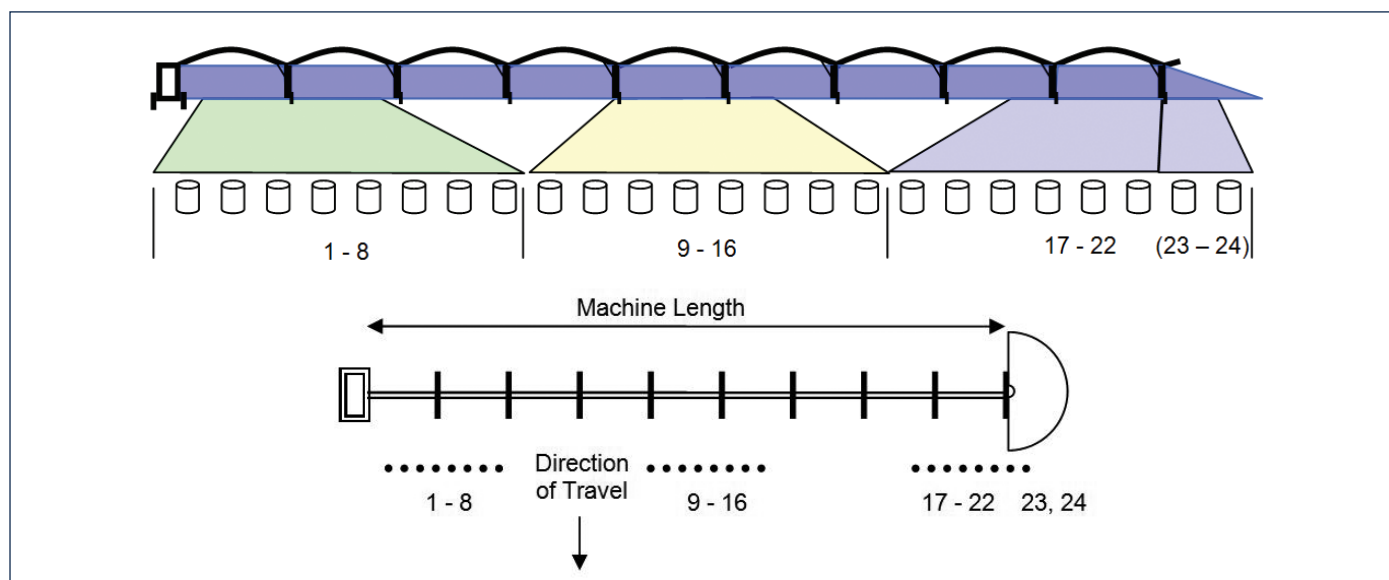

Figure 2.1. Layout of collectors along length of linear move irrigator
2. Arrange eight collector buckets at even spacing under the first span or two of the machine (see 1–8 in Figure 2.1).
3. Arrange eight more collector buckets at even spacing in the middle of the machine (see 9–16 in Figure 2.1).
4. Arrange eight more collector buckets under the last span or two of the machine (see 17–24 in Figure 2.1).
NOTE: If there is an end gun, arrange the last two collector buckets at even spacing between the end wheel track and the extent of significant wetting (see 23 and 24 in Figure 2.1).